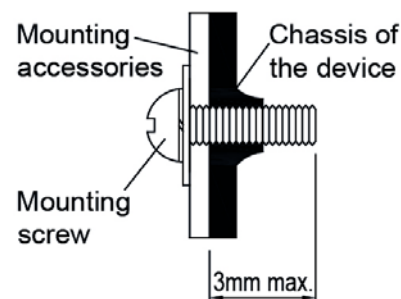

Fig. 4 Mounting Screw
- For PMT and PML Series (Refer to Fig. 4): Only use M3 screw $\leq 3\text{mm}$ through the base mounting holes. This is to keep a safe distance between the screw and internal components. Recommended mounting tightening torque: 4~7Kgf.cm.